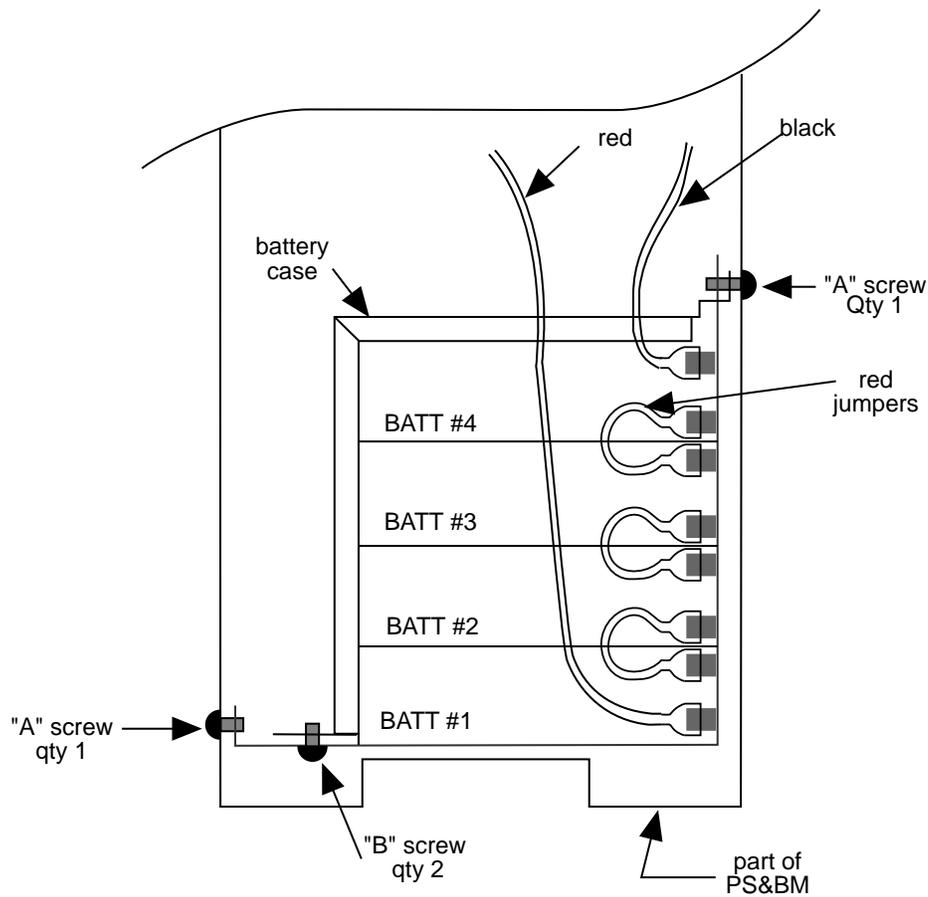

Figure 7-18. Battery Module
2. Remove the screws which attach the battery module to the power supply chassis. These screws are marked "A" in Figure 7-18.
3. Disconnect the black lead that connects the power supply to the top lug of the top battery (Figure 7-18).
4. Disconnect the red lead that connects the power supply to the bottom lug of the bottom battery (Figure 7-18).
7. Disconnect the three red jumpers that connect the batteries together (Figure 7-18).
8. Remove the two screws which hold the battery module sheet metal pieces together. These screws are marked "B" in Figure 7-18.
1. Orient the new battery module as shown in Figure 7-18.
3. Connect the batteries with the three red jumpers (Figure 7-18).
6. Connect the black lead from the power supply to the top lug of the top battery (Figure 7-18).
7. Connect the red lead from the power supply to the bottom lug of the bottom battery (Figure 7-18).